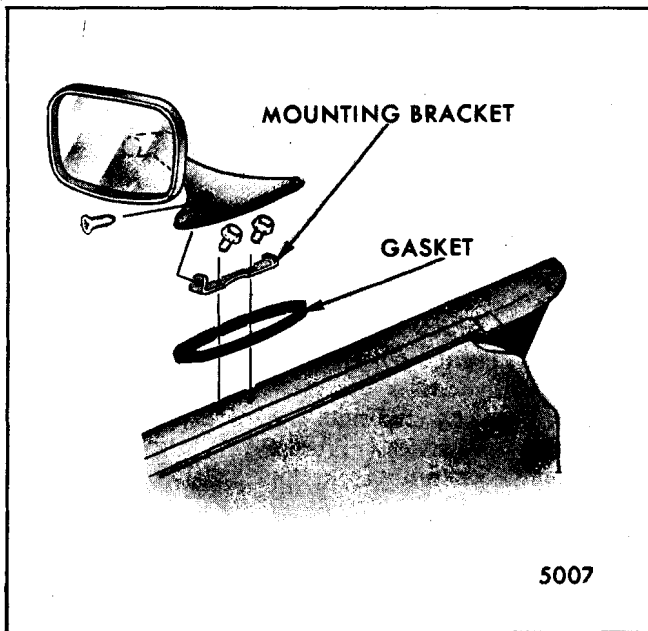

Fig. 6-61-Door Outside Mirror - Typical All Styles
1. Remove attaching screw in base of mirror and remove mirror (Figure 6-61).